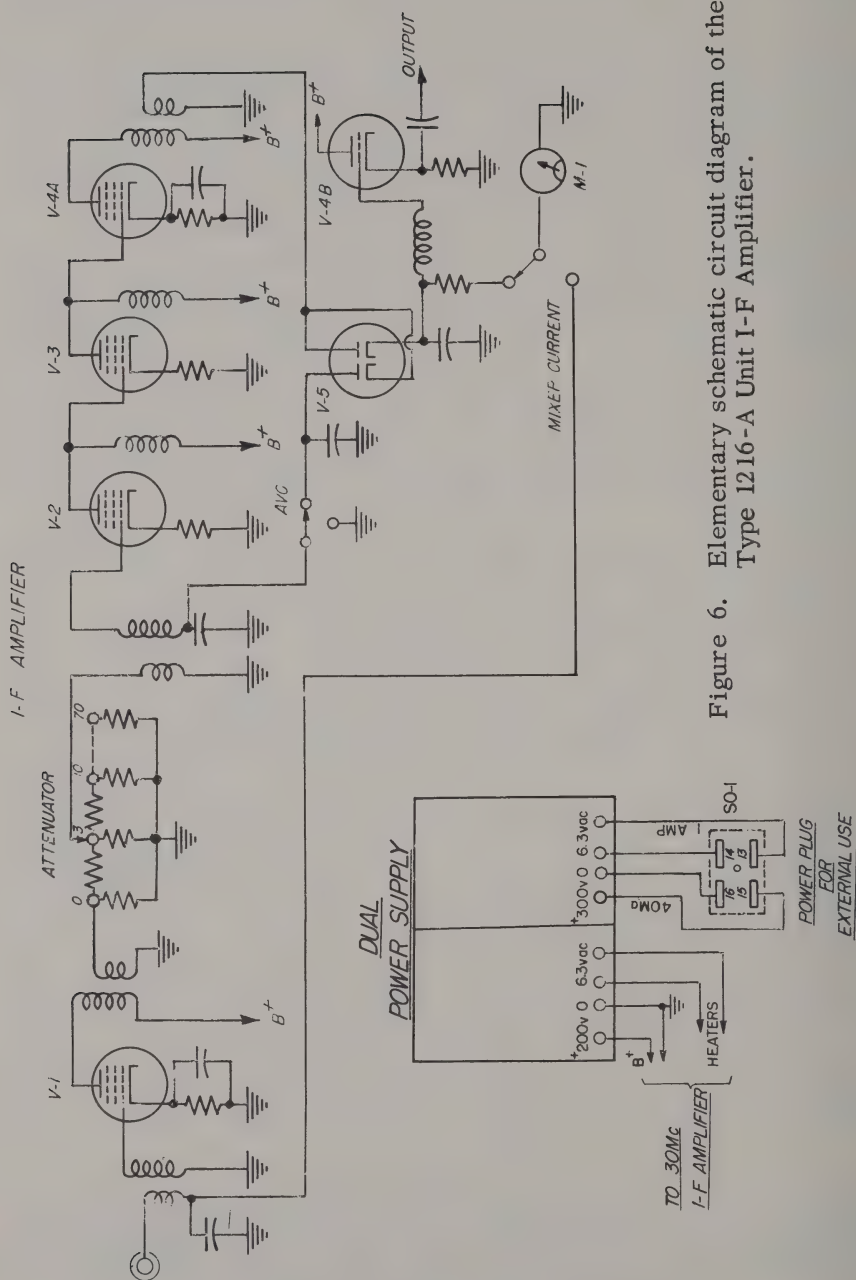

Figure 6. Elementary schematic circuit diagram of the Type 1216-A Unit I-F Amplifier.
1.22 I-F Amplifier: The Type 1216-A I-F Amplifier consists of four synchronously tuned i-f amplifier stages, a detector, a video amplifier stage, an r-f attenuator, and two power supplies. A simplified circuit diagram is shown in Figure 6 and a complete circuit diagram in Figure 22.